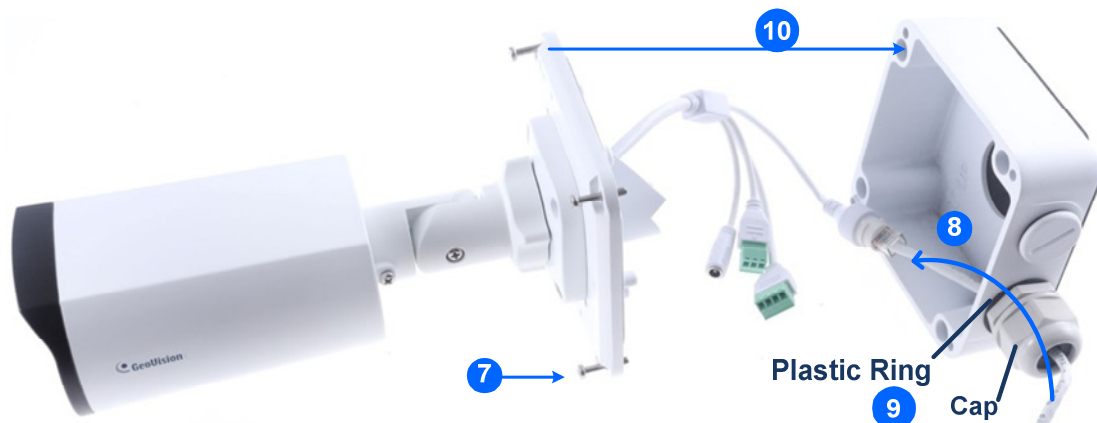

Figure 1-57
- Thread the Ethernet cable through the PG21 conduit connector and the power box as shown in No 8, *Figure 1-57*. Then Connect the cable to the camera. To waterproof the cable, see *1.6 Waterproofing the Cable*.
- Rotate the plastic ring to secure the conduit connector to the power box. Secure in the cap, as shown in No 9, *Figure 1-57*
- Secure the box cover to the power box, as shown in No 10, *Figure 1-57*